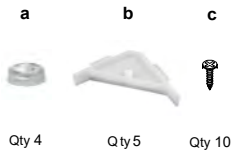

Figure 11
- 10. Installing the Corner Braces (Figures 11&12):** Position and insert the 5 plastic corner braces (b) in the locations shown in **(Figures 11&12)** secure them with 1/2" screws (c). Install round buttons (a) onto the doors where they contact the frames.